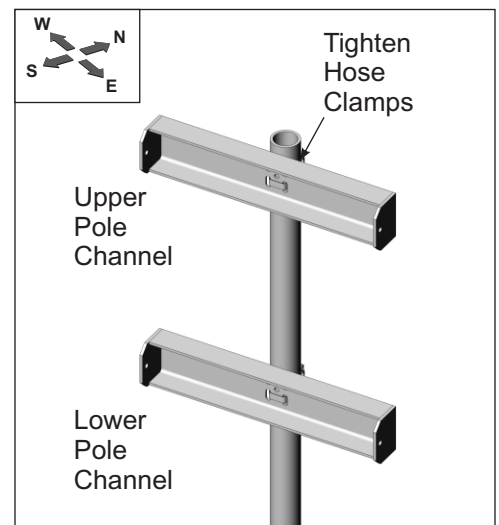

Figure 1-4: Installing Upper Pole Channel
- F. Rotate the Pole Channel so it faces south. (See Figure 1-4)